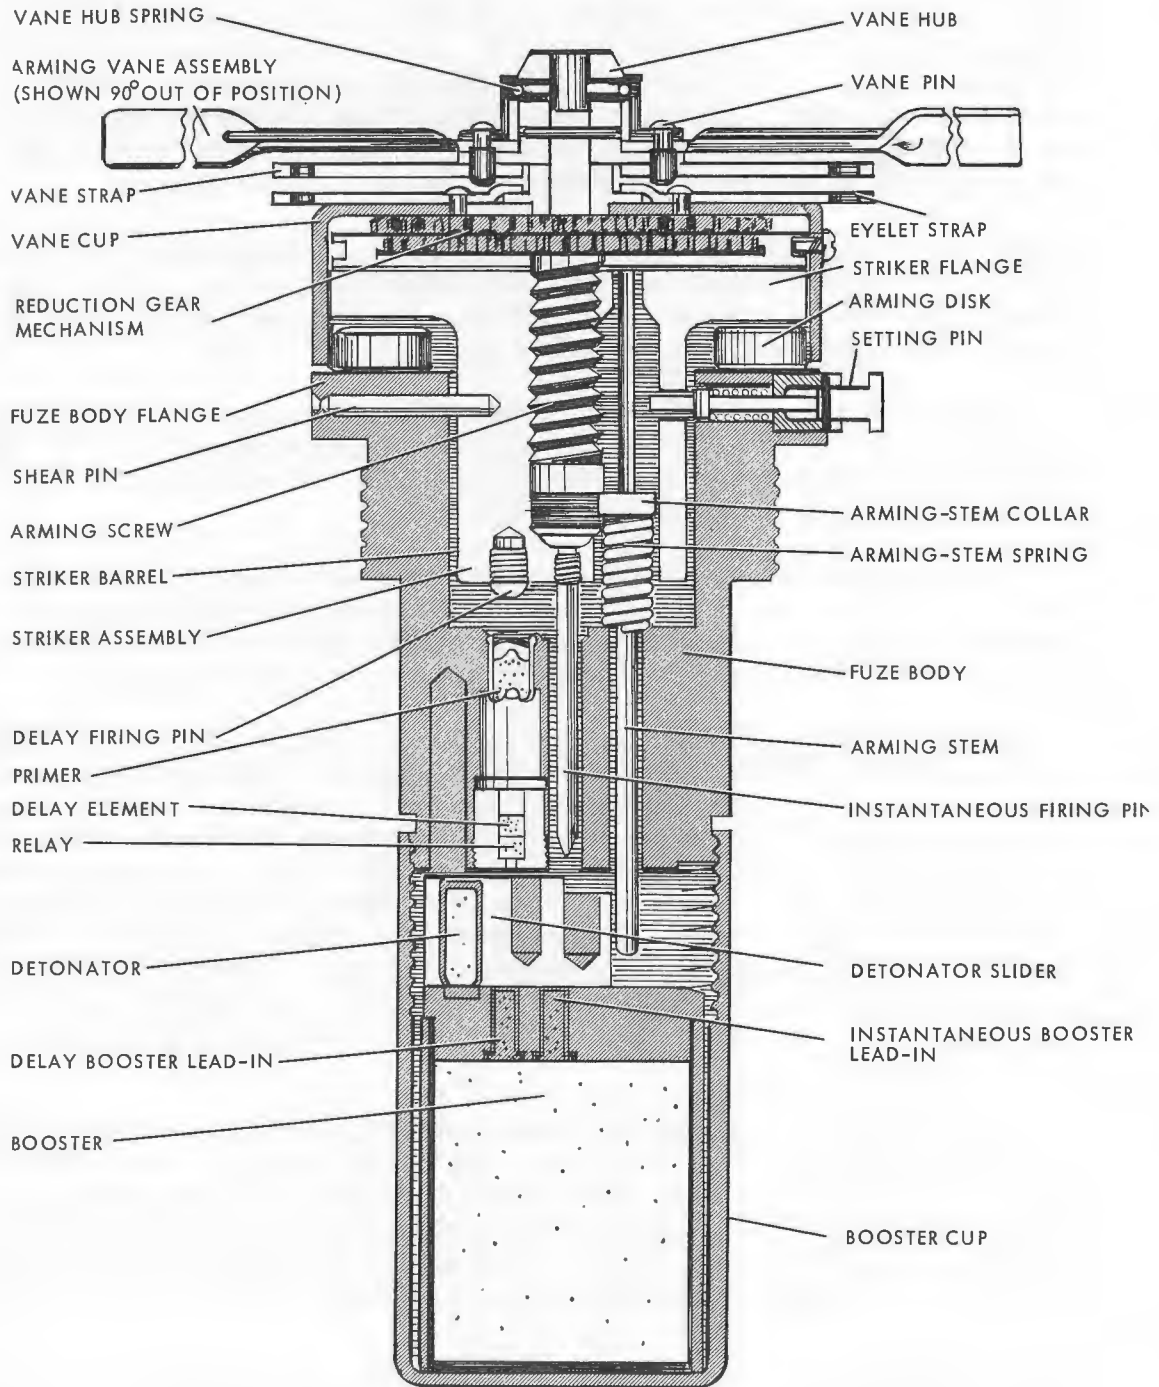
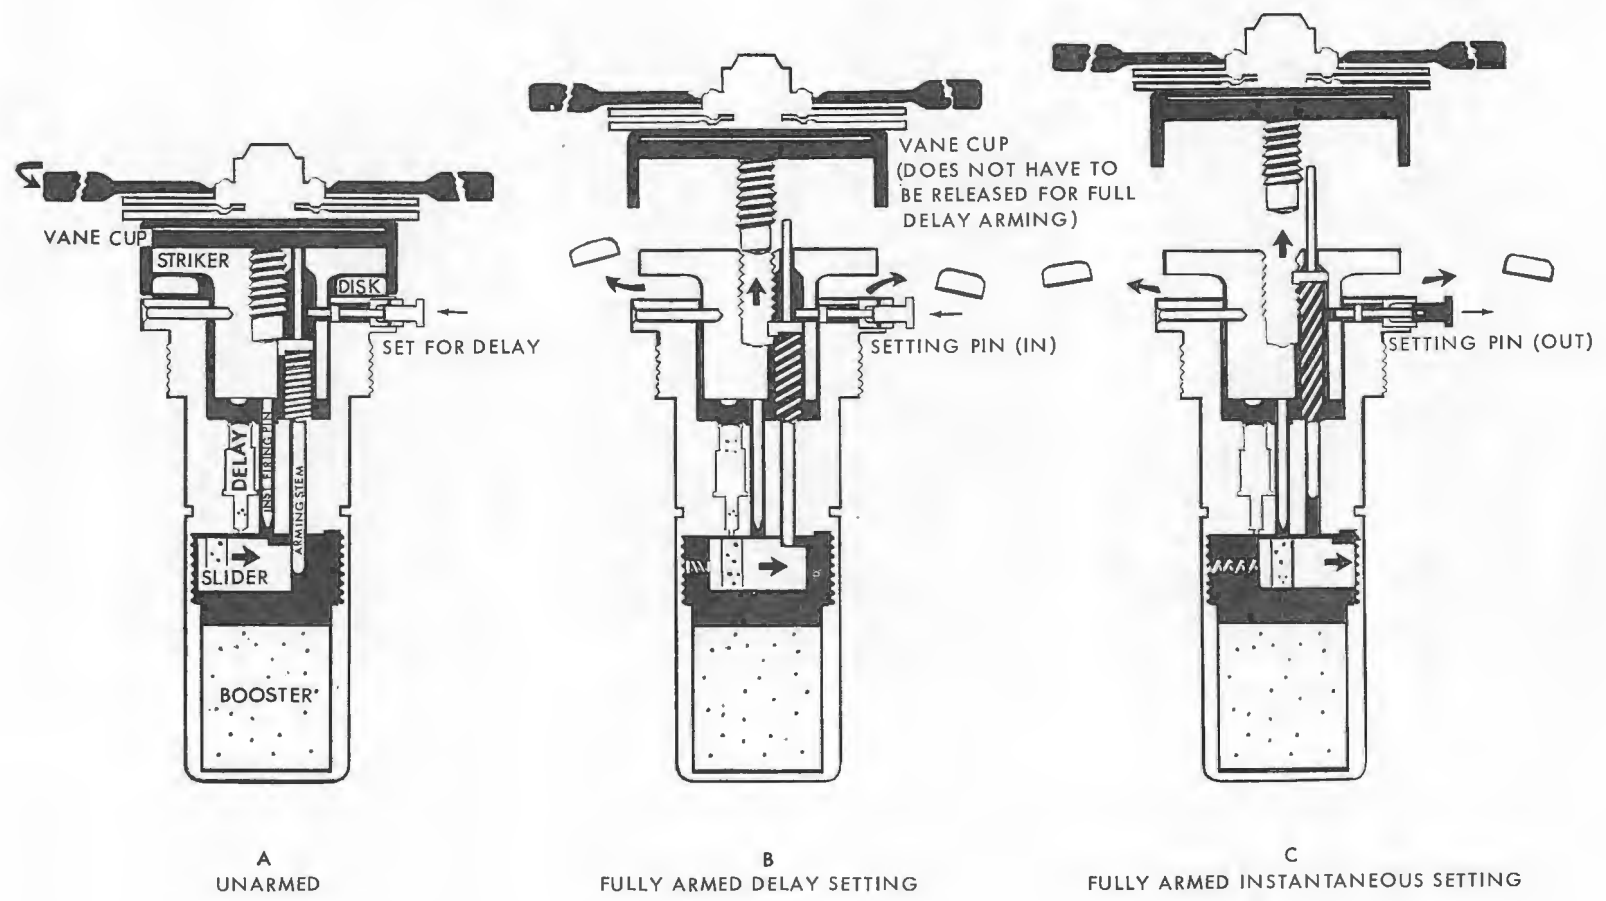

Figure 3-2 Fuze AN-M103A1/M163 Series,
Figure 3-3 Arming Actions, Delay and Instantaneous Modes
FUNCTIONAL DESCRIPTION. Figures 3-1 and 3-2 show the AN-M103A1/M163 series fuze in exterior and cutaway views, respectively. (Fig. 3-2
The arming stem (see Figs. 3-2 and 3-3) is a spring-loaded rod which bears against the inner surface of the vane cup. As the arming screw advances and carries the vane cup outward, the arming stem follows. When the fuze is unarmed, the lower end of this stem prevents the detonator slider from moving to the armed position; during arming however, the arming stem moves upward and clears the detonator slider. As shown in Figure 3-3(b) and (c), the detonator is then free to move to the right, in line with the firing train.
INSTANTANEOUS MODE. When a fuze is set for instantaneous functioning, the setting pin (Fig. 3-3) is set in the shallower of the two slots on the sleeve surrounding the setting pin. This position keeps the inner end of the setting pin clear of the channel through which the arming stem moves. (See Fig. 3-3(c) for the position of the setting pin in the instantaneous setting.)
The arming stem, when thus blocked, can move only far enough to clear the first step of the detonator slider (Fig. 3-3(c)). The detonator is thus brought in line beneath the black powder delay element firing pin and arming is complete.
DETONATION AND FUNCTIONING. In either the instantaneous or delay mode, the arming disks, vane cup, and vane drop away, leaving the striker exposed. Upon impact, the striker moves back, shearing both the shear pin (Fig. 3-2) and the setting pin. Detonation is thus initiated, with the detonator beneath either the delay or instantaneous firing pin. If the delay setting is chosen, the instantaneous firing pin is driven into a cavity in the detonator slider, as is the arming stem. On instantaneous, only the arming stem is driven into a cavity.
If the arming disks (Figs. 3-2 and 3-3) are missing, the fuze must be treated as though it is armed. An AN-M103A1/M163 fuze contains a lethal amount of tetryl in the booster and should be handled carefully at all times. If the shear pin has been severed on an armed fuze, the fuze becomes critically sensitive to shock and can detonate easily. Known armed fuzes, either installed or uninstalled, should be handled only by EOD personnel.
1. If the arming vane has been allowed to rotate, check to ensure that the arming disks are still in place. If they have ejected (or if the entire vane cap assembly is missing), the fuze is fully armed. (See Figs. 3-2 and 3-3 and related functional description.)
2. With the fuze sitting upright on its booster, attempt to slide the 0.156-inch feeler blades of the test gage between the vane cup and fuze body flange (Fig. 3-2) directly above the shear pin and setting pin. Do not attempt to force it. If the fuze is partially armed, the feeler blades can go in as far as the arming disks. If unarmed, the blades will not have clearance to move between the edge of the vane cup and the fuze body flange.
- a. Check that the arming disks (Fig. 3-2) are all in place.
- b. Pull the setting pin (Fig. 3-2) out as far as it will go. Rotate it. It should move smoothly without binding or sticking. If it sticks or binds, reject the fuze.
6. Check for a defective or missing shear pin (Fig. 3-2) as follows: